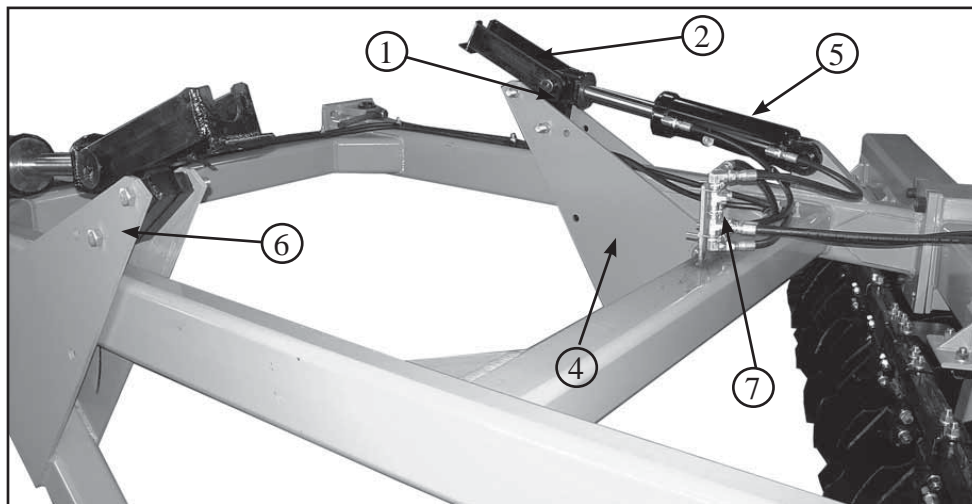

Figure 13
4.4 DISCING POSITION (Wheel Disc - Fig. 13 & 14)
2. See figure 13. Remove the cotter pins from the wheel strut transport pins (1) in the R.H. & L.H. wheel strut assemblies (4) & (6). Remove pins (1) from the transport position holes (3) and install them in the discing position holes (2) in the two strut assemblies and secure each pin with a cotter pin.